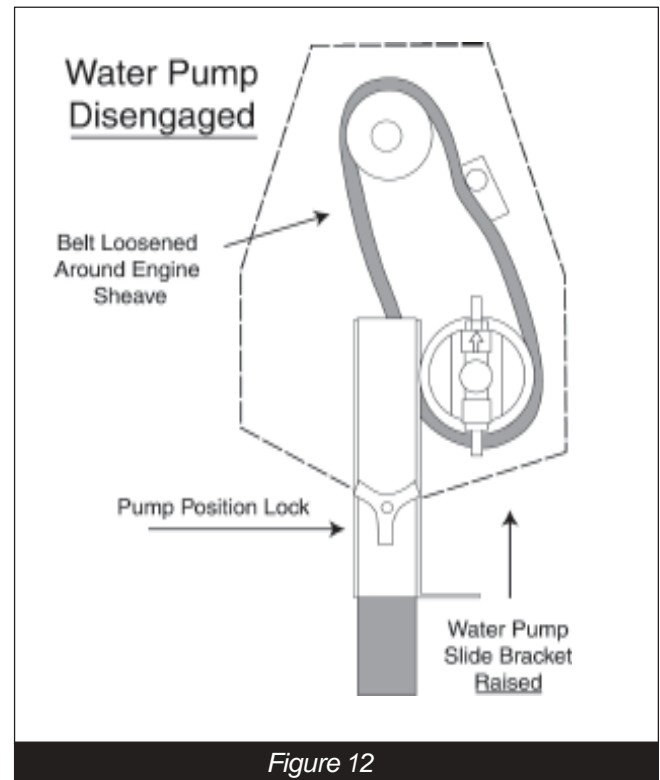

Figure 12
- Disengage water pump by loosening the pump position lock. (Figure 12)